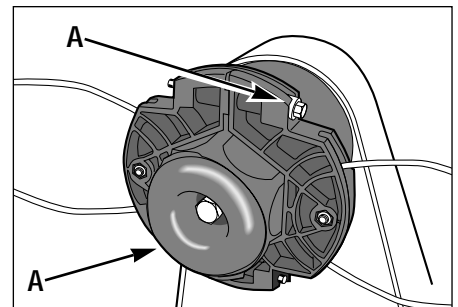

Figure 4-1
2. Use a 1/2" wrench to loosen both bolts (A, Figure 4-1) securing the trimmer head. Do not try to loosen the two nuts.